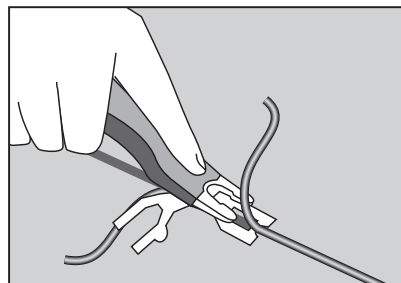

Fig. 2
- Turn the trimming guide 90° to the side to fully trim off the surplus welding rod (Fig. 2)